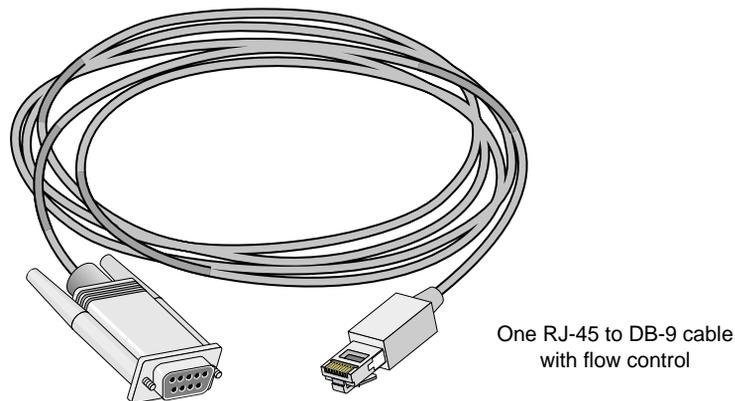

Figure 5-6 Items Needed to Connect an SGI Origin 300 Server to an SGIconsole
5. Make sure that you have the following items (shown in Figure 5-6):